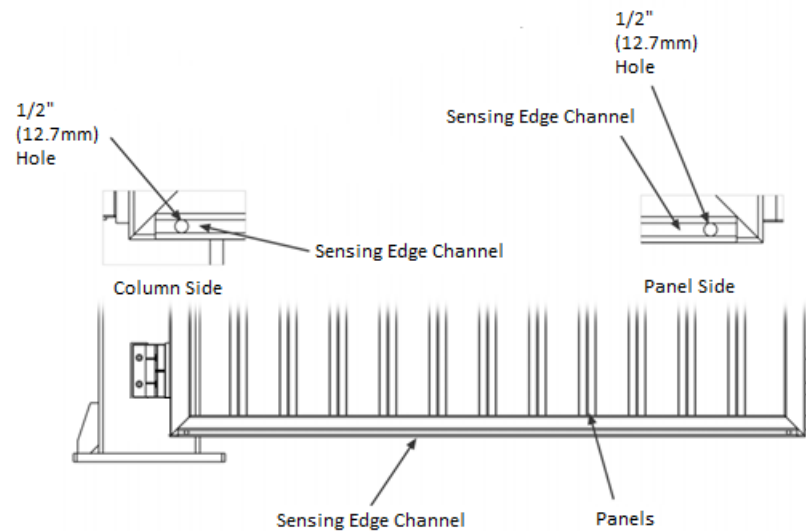

Figure 16. Gate Edge Installation
2.	<p>Securely fasten the aluminum channel to the gate panel leading edge, using the provided self-tapping screws.</p> <p>A hole must be drilled ½” (12.7mm) in size 1” (25.4mm) from the end of each side of the aluminum channel into the gate frame. See Figure 16.</p>